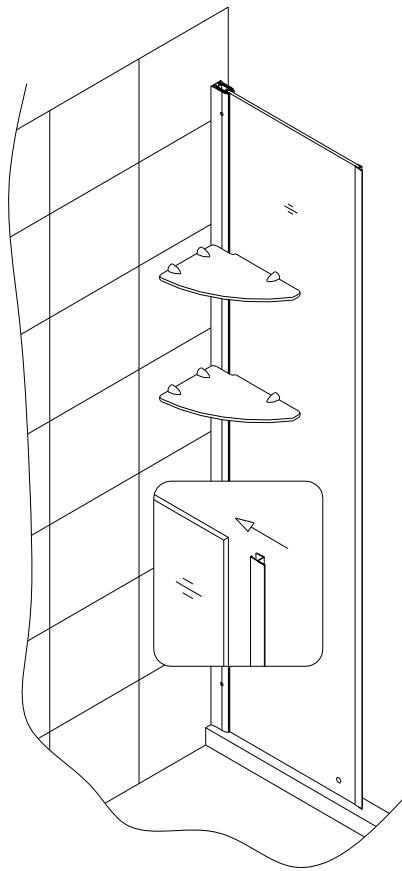

Fig 17
17. Attach the **Anti-water strip (34)** onto the **Stationary glass (25)**. See Fig 17 for details.